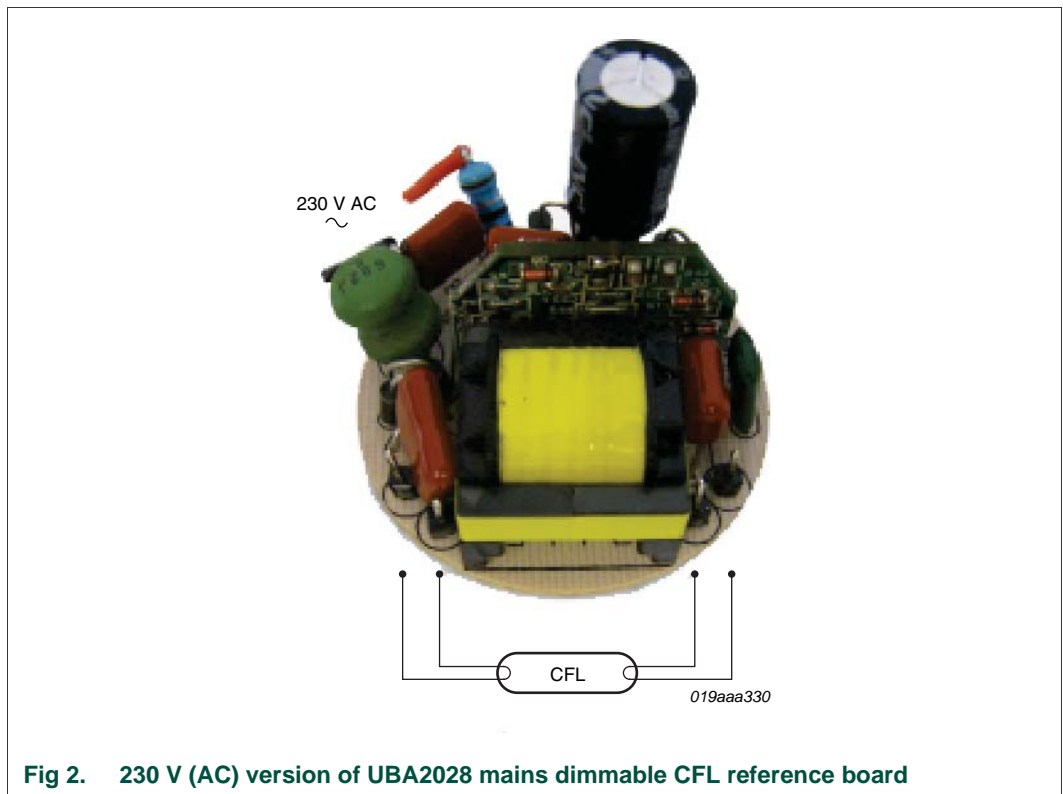

Fig 2. 230 V (AC) version of UBA2028 mains dimmable CFL reference board
The 230 V (AC) mains input connection and four CFL connections for the burner is connected as shown in Figure 2. A resistor of 4.7 Ω is placed in series with the 230 V mains input.